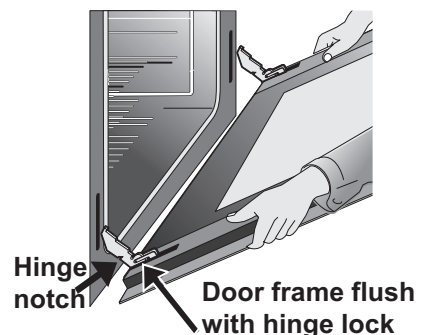

Figure 44: Replacement and location of hinge arm and roller pin
4. Pull the bottom of the door toward you while rotating the top of the door toward the appliance to completely disengage the hinge levers (Figure 44).
1. Firmly grasp both sides of oven door along the door sides. Do not use the oven door handle (Figure 44).
4. Push the door hinge locks up toward and into the oven frame on both left and right oven door hinges to the locked position (Figures 44).